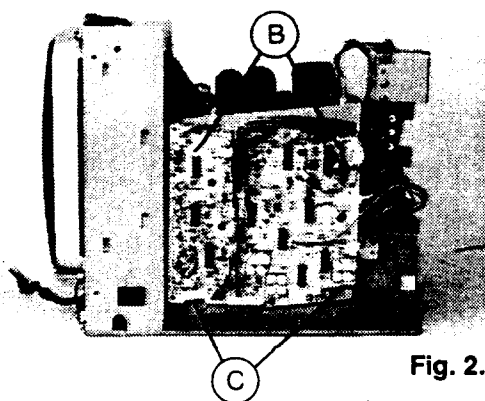

Fig. 2.
- (a) Remove the PWB from the z spacers marked "B" as shown in fig. 2.
- (b) Lift the Def. PWB upwards and release the PWB from the bottom 2 hooks marked "C" as shown in fig. 2. The Def. PWB can be turned for servicing.